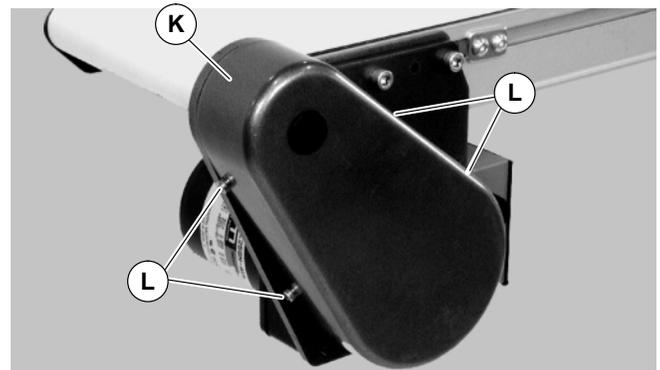

Figure 8
8. Install cover (K of Figure 8) with four (4) screws (L). Tighten to 35 in-lb (4 Nm).